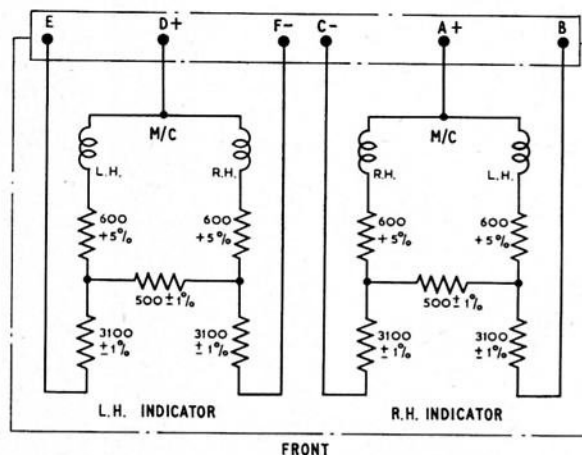

Fig. 2. Circuit diagram
2. The circuit diagram is shown in fig. 2. Connections to the indicator are made via a 6-pole Breeze socket.